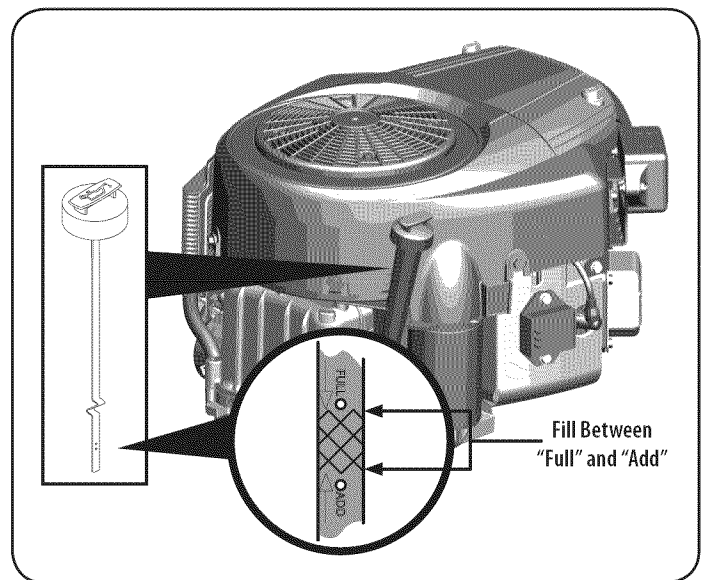

Figure 10
2. Remove the oil filler cap/dipstick and wipe the dipstick clean. See Figure 10.
4. Remove the oil filler cap/dipstick. If the level is low, slowly add oil until oil level registers between FULL and ADD, Figure 10.